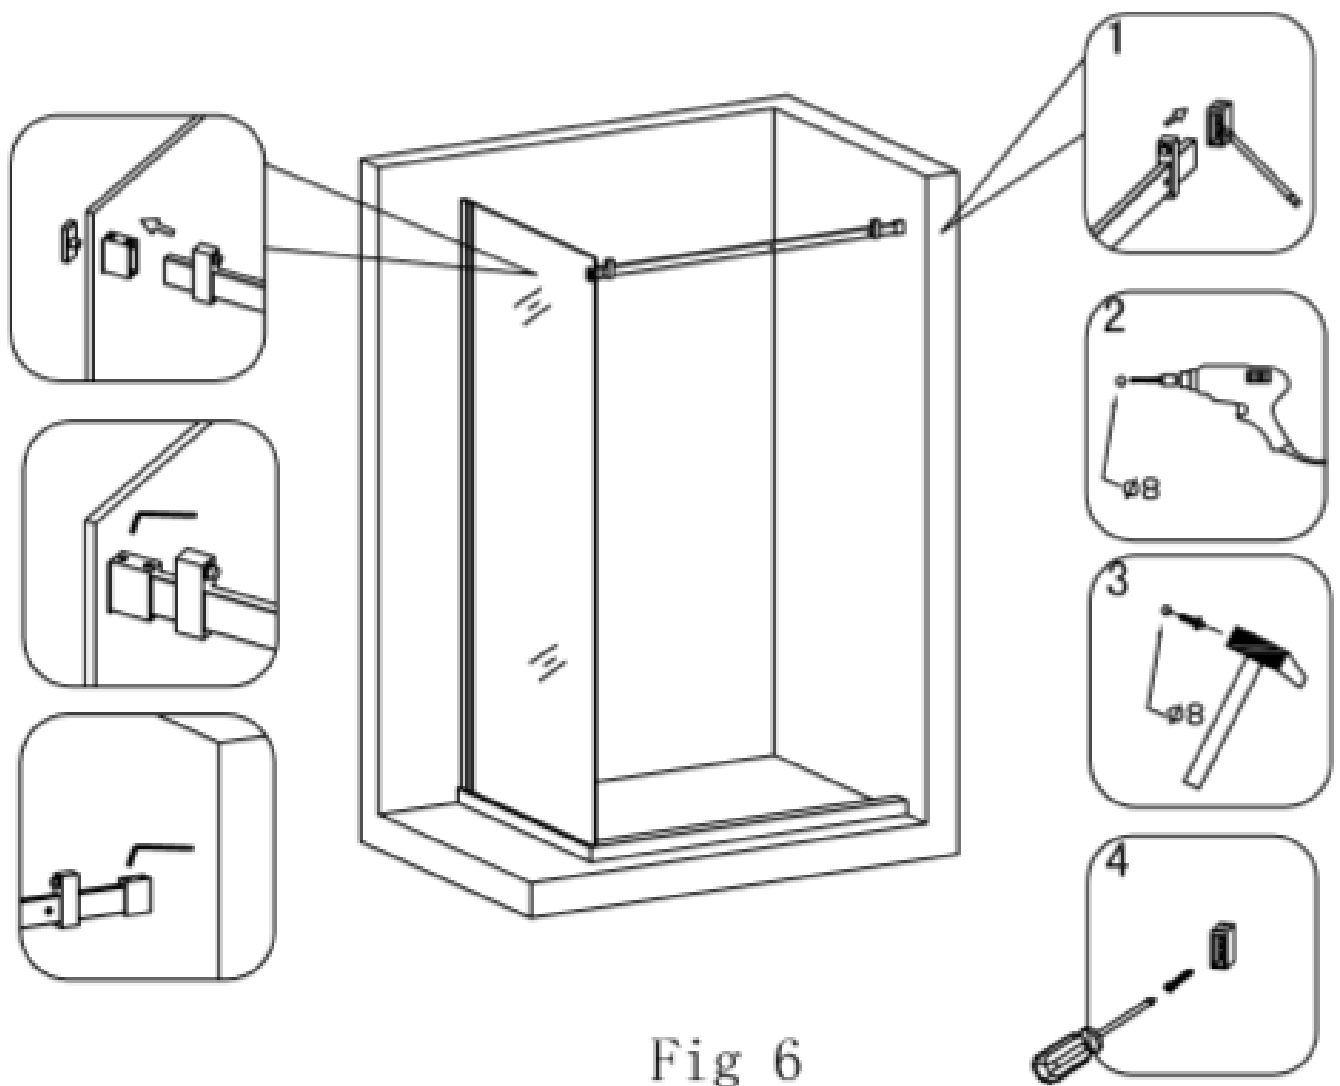

Fig 6
6. Install the **return panel's fixed wall base (2)** to **return panel glass (7)**, and put the support bar into return panel's fixed wall base. Put the **fixed wall base (11)** into the other side of support bar. Then make the marks through the predrilled holes on the fixed wall base. Now drill the holes with drill bit ($\Phi 8\text{mm}$) and insert the **wall anchor (23)**. Then lock tightly with **round head screw ST4*45 (20)**. (Fig 6)